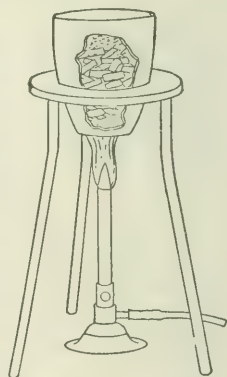

Fig. 65. Preparation of charcoal in a sand crucible.
**a. Preparation.** When animal or vegetable matter is heated strongly in the absence of air, the residue is charcoal. We may easily prepare wood charcoal by placing on a thin layer of sand in a sand crucible or on a small iron pan a few chips or small blocks of wood. If we then cover them with sand to keep out the air (Fig. 65) and heat strongly until all smoking ceases, we find, when the crucible is cool, that the residue is charcoal.
**b. Properties.** (1) To show that carbon is a decolorizer, fill a test tube half full of water which has in it enough molasses, brown sugar, cochineal, or indigo to give a decided color. Add about 5 cc. of animal charcoal to the solution, shake thoroughly, and boil for 3–4 minutes. Filter the solution, and, if the filtrate is not clear and transparent, repeat the operation with fresh animal charcoal. The activity of the charcoal is much increased by previous heating in a covered iron crucible. If a solution of sugar or molasses was used, taste the filtrate to determine whether or not the sugar has been removed.